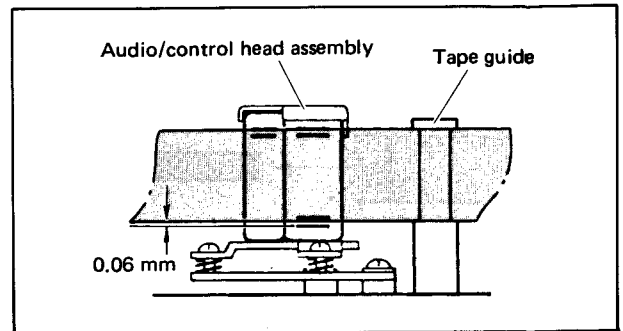

Fig. 4-49 Audio/control head height
- Carefully and evenly adjust screws (A), (B) and (C) to align the audio/control head height with the tape as shown in Fig. 4-49.